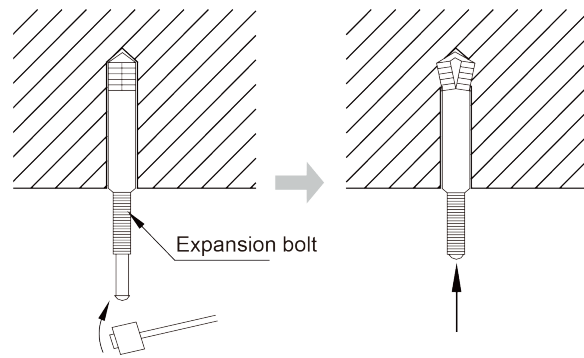

Fig.4.1.5
2) Insert the M10 expansion bolt into the hole and then knock the nail into the bolt, as shown in Fig.4.1.5.